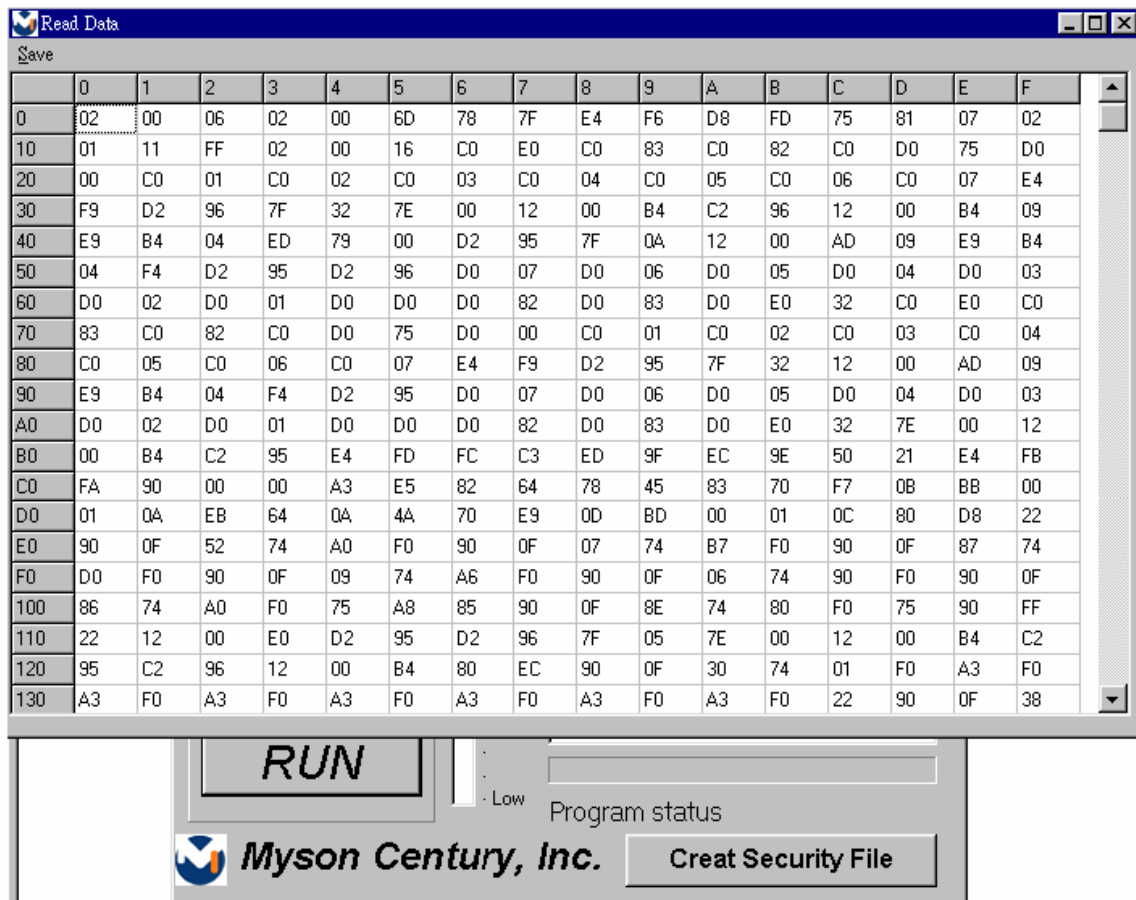

Fig 5.1
5.1 Only software ISP could read the MCU content, it is according to program the boot code while coding. The limitation is used for the security of customer ' s code. Select “ Read Target ” item, and press “ RUN ” button, the MCU content will show as Fig 5.1.